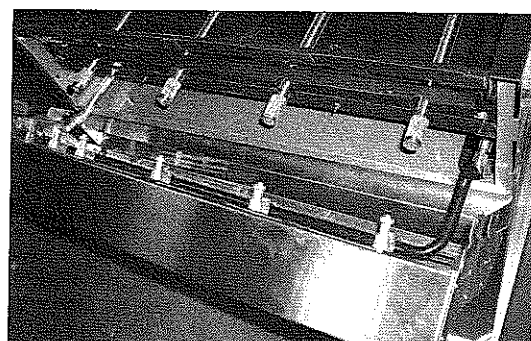

Fig 13
13. Lift the front face slightly and let the inserts on the side of the front face slide out of the slots on the grill sides. (See Fig. 13)
21. Place the front face back into the grill, adjust the main burner tubes to make sure all the orifice go into the tubes, then let the inserts on the front face sides slide into the slots on the grill sides. (See Fig 13)